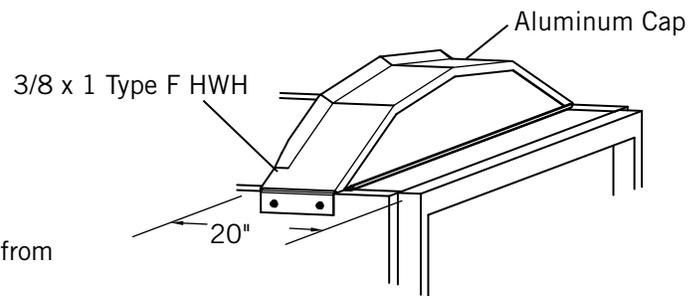

Figure 15-2
- 1) **Figure 15-2.** Position aluminum rear cap on top rail centered on width, locate the front edge of cap 20" from outside of tailgate.